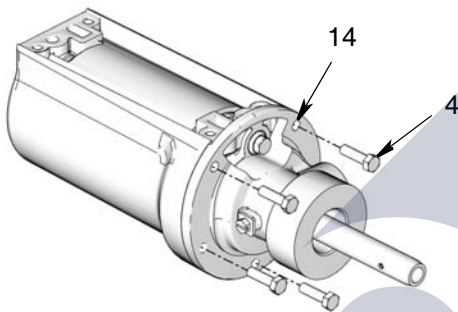

Fig. 16
7. To ensure there is a proper seal between the air valve and manifold, loosen all 5 screws (Fig. 16) approximately 1/8 to 1/4 turn. These screws will be torqued in Step 12, **AFTER** the air valve (40) is installed.